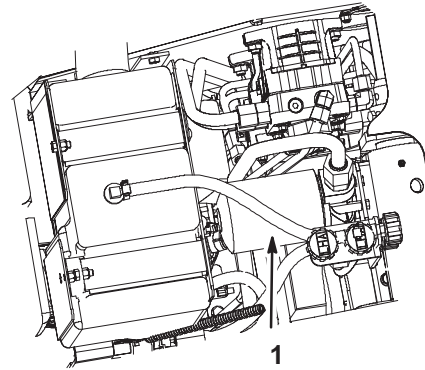

Figure 61
4. Place a drain pan under the filter (Fig. 61).
5. Remove the old filter (Fig. 61) and wipe the surface of the filter adapter gasket clean.
7. Install the replacement hydraulic filter onto the filter adapter (Fig. 61). Tighten it clockwise until the rubber gasket contacts the filter adapter, then tighten the filter an additional 3/4 turn.